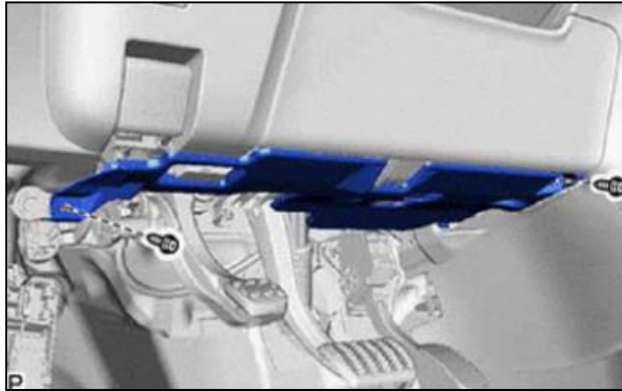

Figure 16
- a. Remove the 2 screws. See Figure 16.